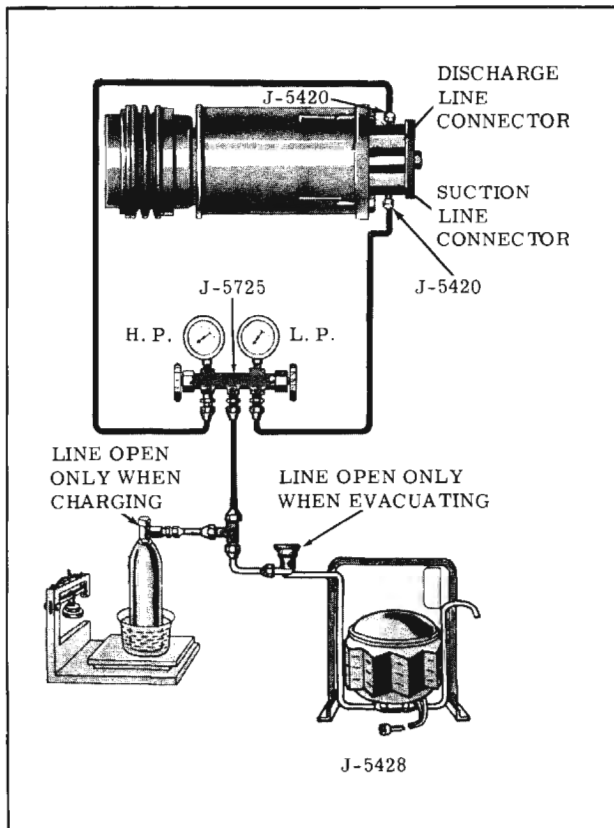

Fig. 15-82 Adding Refrigerant Partial Charge
3. Install gauge set as shown in Fig. 15-82.